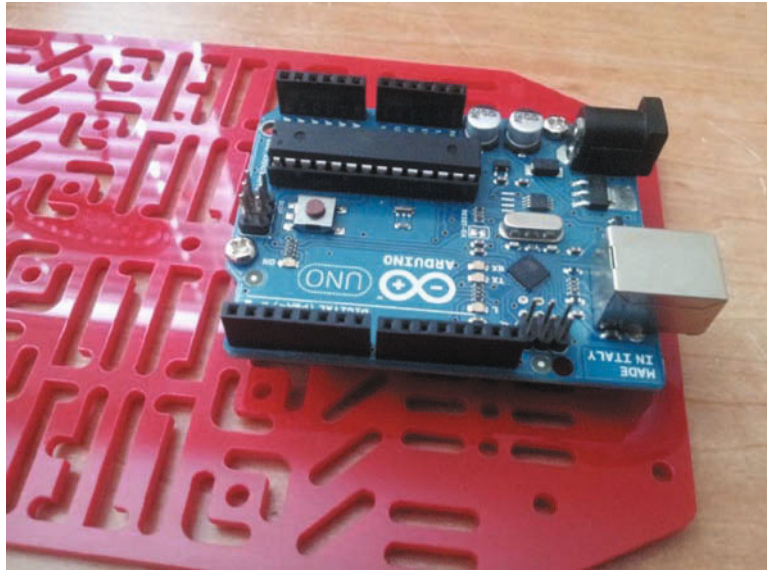

Figure 31-4. Attach the Arduino to the top plate of the chassis
3. Attach the Arduino to the top plate of the chassis. Figure 31-4 illustrates this process. You may find that the Arduino is sitting at a small angle with respect to the edges of the top plate—this is perfectly normal. Not all chassis plates allow for perfect mounting of components, so you'll sometimes have to rotate a component to make the standoffs fit into the spaces of a plate.